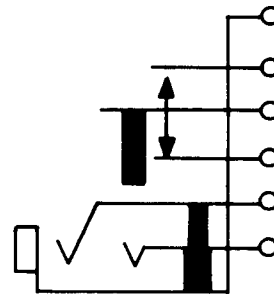

Fig. 14—483C or CM Jack
**2.09 483C and CM:** These single-mounted jacks (Fig. 14) are intended to be mounted with the springs in a vertical plane. These jacks are used with the 309 or similar-type plugs.